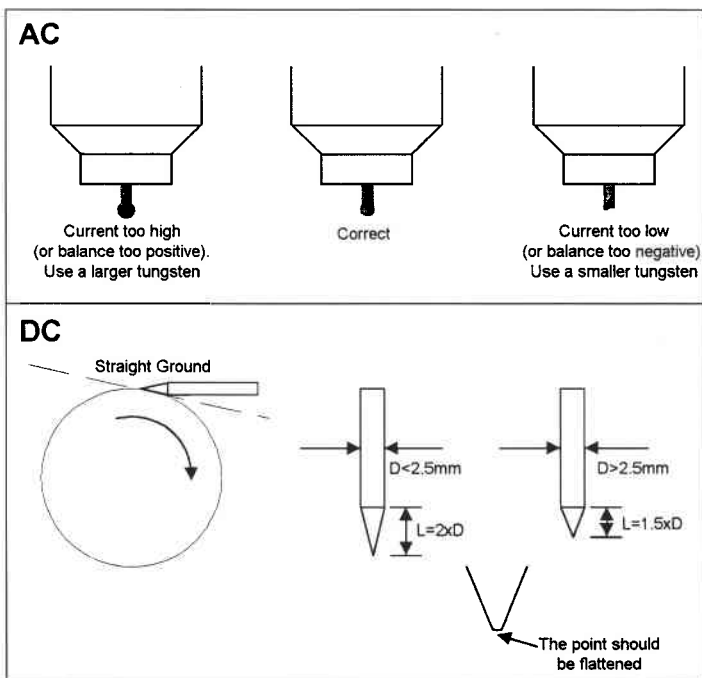

Figure 11. Tungsten Preparation
2. Tungsten Tip Preparation, see Figure 11